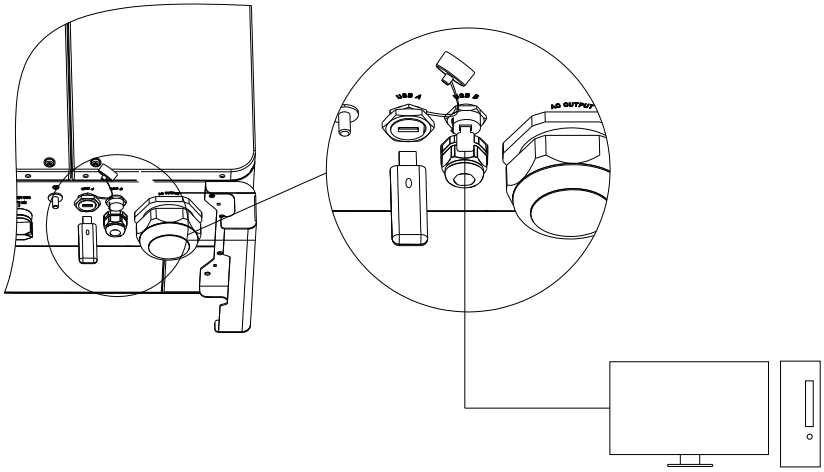

Fig 6.8A
- 2> As shown in Figure 6.8A,plug the USB to WIFI dongle to USB_A port, the indicating LED will lit up.